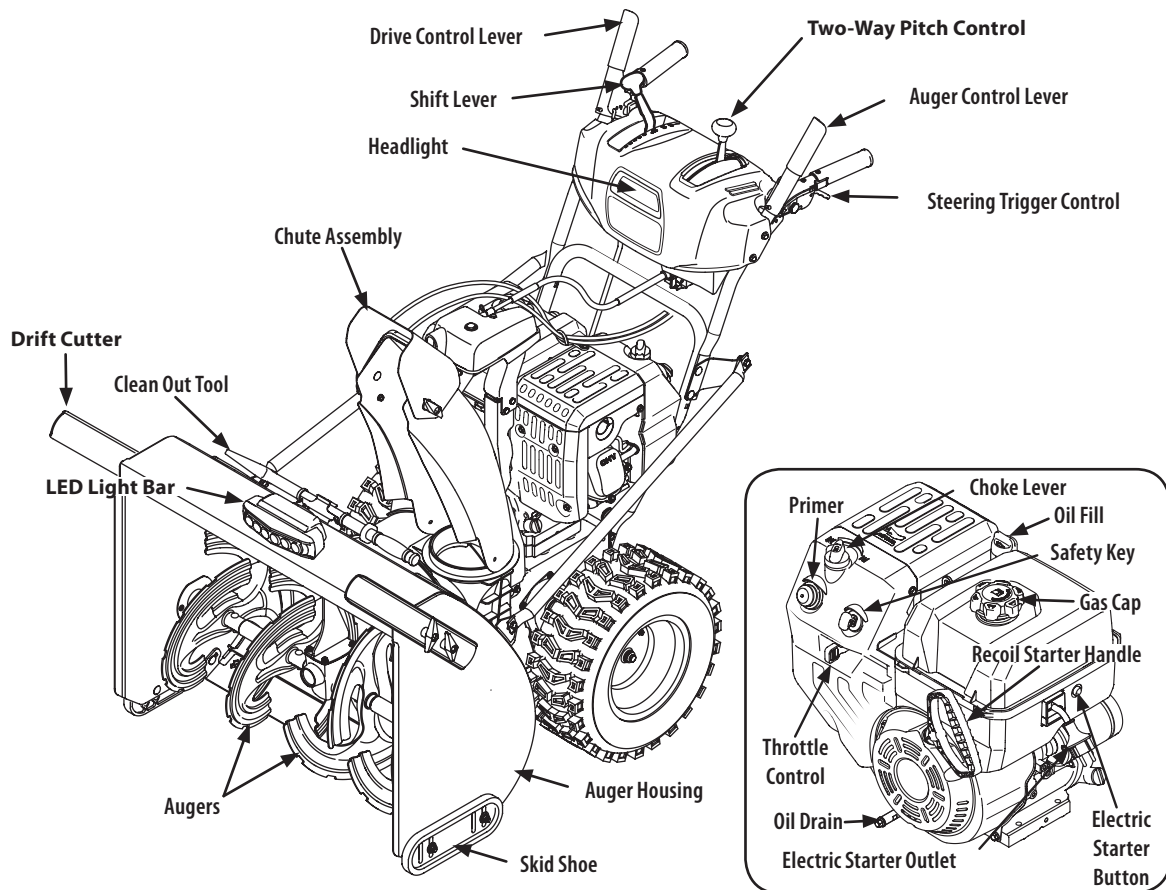

Figure 17
Now that you have set up your snow thrower, it's important to become acquainted with its controls and features. Refer to Figure 17.
1. Remove the oil fill cap/dipstick and wipe the dipstick clean. See Figure 17 inset.